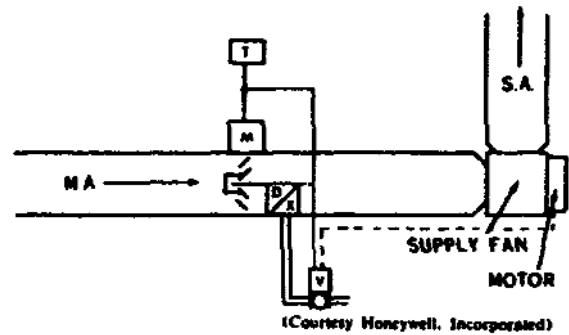

Figure 7. Two-position control of a D/X coil solenoid valve and modulating control of a face and bypass damper.
15. *Two-position control and modulating control of a face and bypass damper.* This system uses a face and bypass damper (shown in fig. 7) to bypass air around the D/X coil during light load conditions. The space thermostat opens the refrigerant solenoid valve when the face damper opens to a position representing a minimum cooling